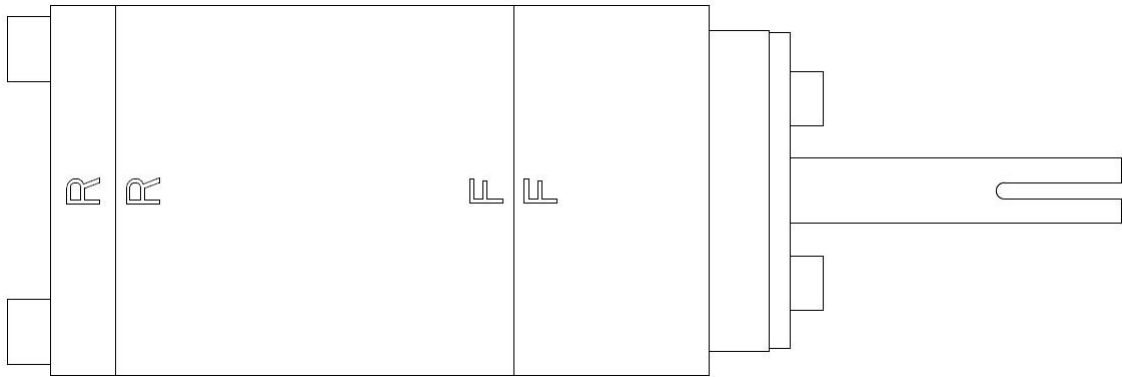
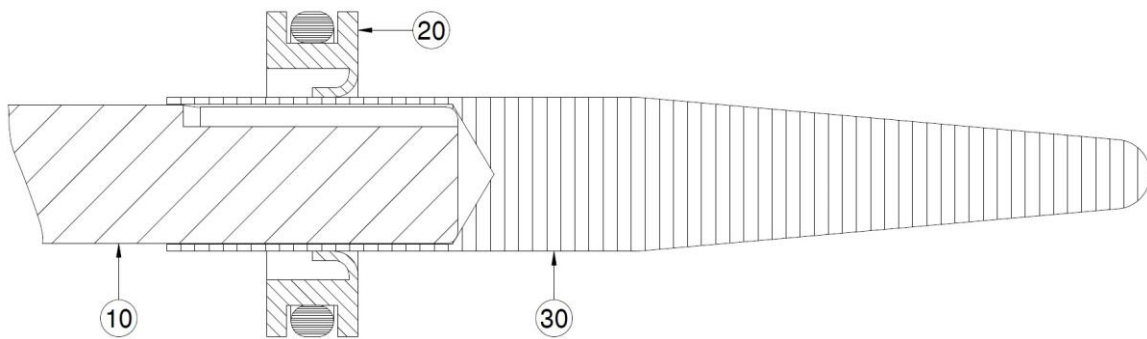
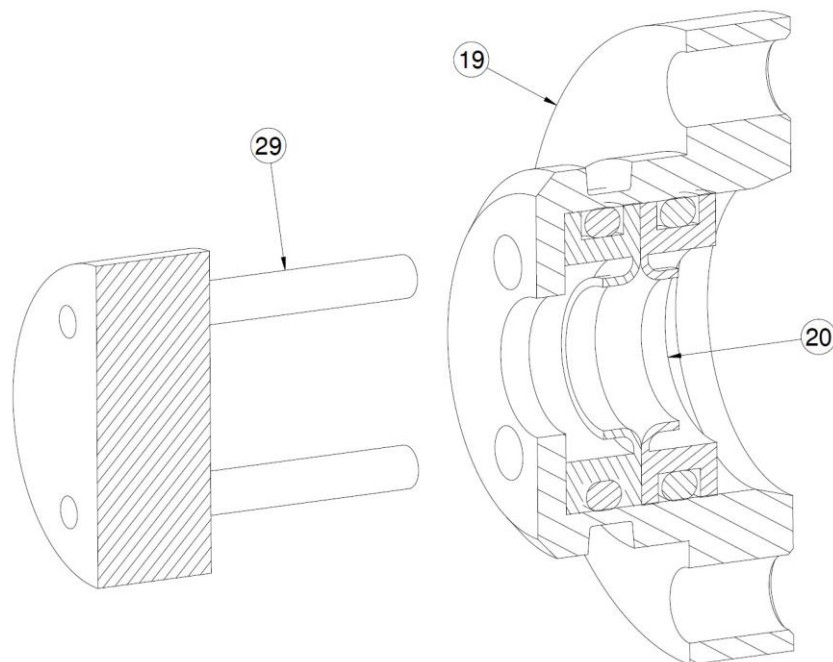

Figure 2: Top View of Pump
Figure 3: Lip Seal Installation with Tool
Figure 4: Seal Removal Tool and Lip Seal Orientation
7. Remove the Drive Gear (7) from the Drive Shaft (10). Then remove the Drive Gear Key (8) from the Drive Shaft (10).
8. Remove the Rear Bearing Insert (5). This may have already been removed.
9. Remove the Front Bearing Insert (15).
10. Locate and remove Dowel Pins (3) from End Plate and Seal Adapter. They are very easy to lose, so put them in a safe place.
11. Remove O-Ring (4) from the Seal Adapter Plate (17).
12. Remove the Seal Housing (19) and Drive Shaft (10) from the Seal Adapter Plate (17) by pushing on the gear end of Drive Shaft (10) while holding Seal Adapter Plate (17).
13. Remove the Outer Ring (14) from the Thrust Washer (12, 13) on the Drive Shaft (10).
14. Remove the two halves of the Thrust Washer (12, 13) from the Drive Shaft (10).
15. Remove the Thrust Washer Drive Key (9) from the Drive Shaft (10).
16. Remove the Seal Housing (19) from the Drive Shaft (10).
17. Press the Drive Shaft Seals (20) from the Seal Housing (19) by inserting the pins of the Seal Removal Tool (29) through the holes in end of the Seal Housing (19), Figure 4.
18. Remove O-Ring (18) from the Seal Housing (19).
19. The Rear End Plate (2) and the Seal Adapter Plate (17) each have a PTFE Thrust Disk (23) pressed into a recess. Removing the Thrust Disk (23) will also destroy it. Remove it only if you are going to replace it. It can be removed by driving a small screwdriver or small punch into it and prying it out of the recess.
10. Install the Drive Gear Key (8) into the Drive Shaft (10) keyway. Note: The keyway in the Drive Shaft (10) is not the same width as the keyway in the Driven Shaft (25). The Drive Shaft (10) has a narrower keyway than the keyway in the Driven Shaft (25).
11. Slide the Drive Gear (7) onto the Drive Shaft (10). Note: Each gear has different size keyway. Use the gear with the keyway that fits the key in the Drive Shaft (10).
12. Carefully slide the Cylinder (6) over the Drive Gear (7) and Front Bearing Insert (15) and engage the Dowel Pins (16) in the Seal Adapter Plate (17). Note: The top of the Seal Adapter Plate (17) has an “F” stamped into it. The top of the Cylinder (6) has an “F” stamped into it. The Cylinder (6) is correctly installed on to the Seal Adapter Plate (17) when the two “F’s” are adjacent to each other. See Figure 2.
13. Install the Driven Gear Key (26) into Driven Shaft (25) keyway. Note: The keyway in the Driven Shaft (25) is wider than the keyway in the Drive Shaft (10).
14. Slide the Driven Gear (24) on the Driven Shaft (25). Carefully install the assembly into the Cylinder (6) and into the bearing bore of the Front Bearing Insert (15).
15. Slide the Rear Bearing Insert (5) over the Drive Shaft (10) and Driven Shaft (25). Note: The Rear Bearing Insert has a relief groove on the side that fits against the end of the gears. This groove will be on the discharge side of the pump. The hole for the Bearing Insert Dowel Pin (3) will be next to the Drive Shaft (10).
16. Install the Bearing Insert Dowel Pin (3) into the Rear End Plate (2).
17. Install the Rear End Plate (2). Note: The top of the End Plate (2) has an “R” stamped into it. The top of the Cylinder (6) has an “R” stamped into it. The End Plate (2) is correctly installed on to the Cylinder (6) when the two “R’s” are adjacent to each other. See Figure 2. Make sure the Bearing Insert Dowel Pin (3) aligns with the hole in the Rear Bearing Insert (5).
18. Install Cap Screws (1) and tighten snugly. DO NOT OVER TIGHTEN.
19. Install Seal Housing (19) into Seal Adapter Plate (17). Note: A light coat of lubricant will aid the installation of the Seal Housing.
20. The pump Drive Shaft (10) must rotate freely. If it does not, disassemble pump, determine the cause of the binding problem, correct it, and reassemble the pump.
21. Place the Seal Assembly Tool (30) over the Drive Shaft, see Figure 3. Slide the inner Lip Seal (20) over the Drive Shaft (10), the lip of this seal MUST be turned toward the pump body, see Figure 4. Press it into the Seal Housing (19). A light coat of lubricant on the O-Ring will aid the assembly of the Lip Seal (20) into the Seal Housing (19).
22. Slide the outer Lip Seal (20) over the Drive Shaft (10) and press it into the Seal Housing (19). The lip of this seal must be turned away from the pump body, see Figure 4. A light coat of lubricant on the O-Ring will aid the assembly of the Lip Seal (20) into the Seal Housing (19).
23. Install the Seal Retainer Plate (22) with the shouldered side toward the Lip Seals (20).
24. Install the Cap Screws (21) and tighten snugly. DO NOT OVER TIGHTEN.